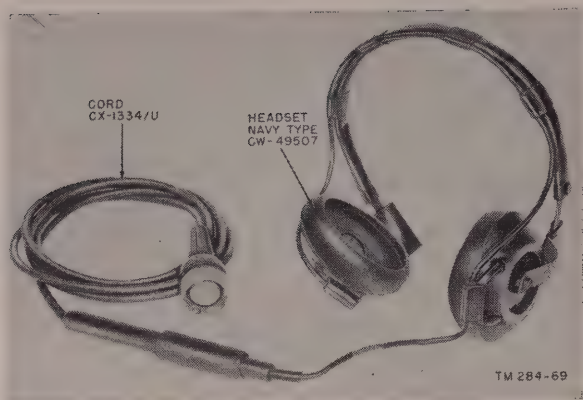

Figure 16. Headset Navy Type CW-49507 and Headset Cord CX-1334/U.
g. HEADSET NAVY TYPE CW-49507 AND HEADSET CORD CX-1334/U. Headset Navy type CW-49507 (fig. 16) consists of two series-